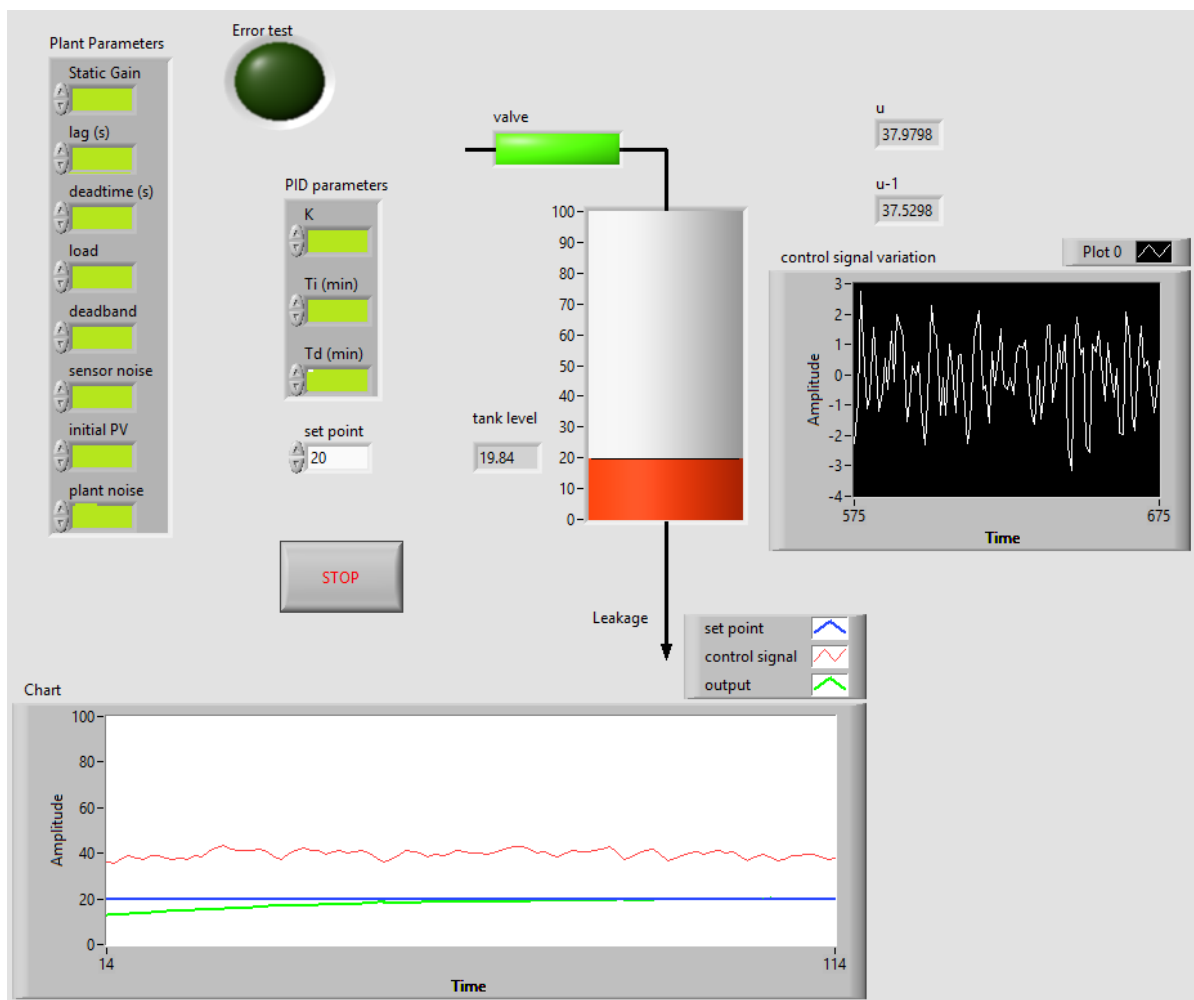

Fig 1. The interface of this application
In this project, you have to understand the components of a Virtual Instrument, and use LabVIEW to create an application to control the water level with PID controller. As we can see from Fig.1, the reference signal is set by the set point controller and tank level indicator shows the level value, the value is the input for controlling the water level and the leakage is a constant which is the load parameter in the plant. Thus, you need to tune the PID parameters to control the water level to follow the reference signal simultaneously and stably.
- Add an array to this front panel (which is not shown in Fig 1.), and record the time, output value and error for the last 30 seconds and update at each second. Specifically, the length of this array is 30 (rows), and 3 columns for storing these parameters. After each second, the new incoming data will replace the data in the first row and all the previous data will shift to the next row. E.g., new-> 1st row, 1st row-> 2nd row.... Finally, export these data recorded in the array to an excel file.